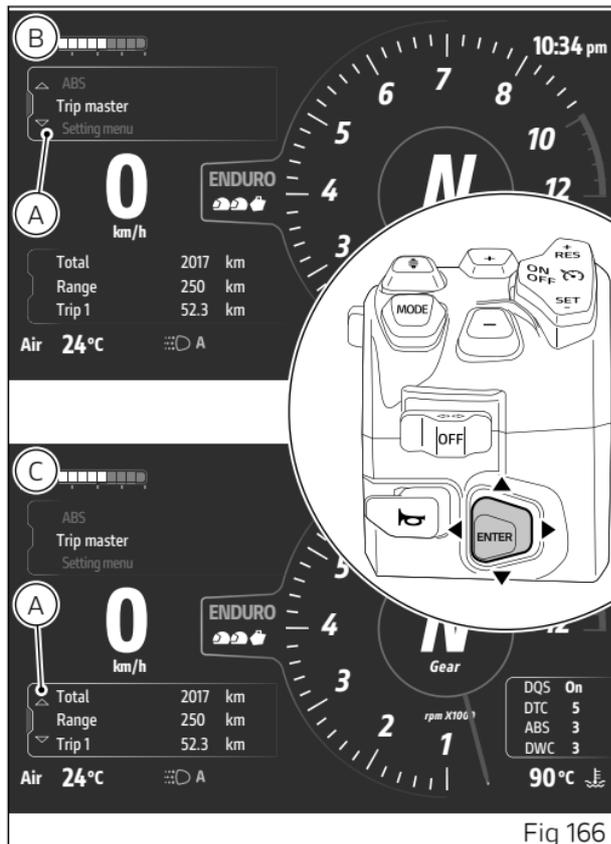

Fig 166
When one of the menus is selected, it is indicated with the active frame (A, Fig 166) and the joystick is used for menu navigation and interaction.
- if "Interactive menu" is currently selected, hold the joystick pressed in position ▼ for a long time to move the selection to "Info display" (C, Fig 166);
(B, Fig 166).